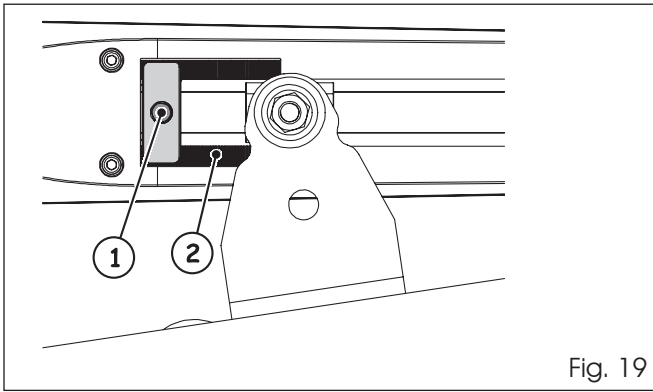

Fig. 19
- Loosen the bolt, Fig. 19 ref. 1. The bolt does not need to be completely removed.
The mechanical stop is coupled to a toothed section on the operator's body, Fig. 19 Ref. 2. In case of difficulties moving the stop check that the coupling is free. Do not force it.